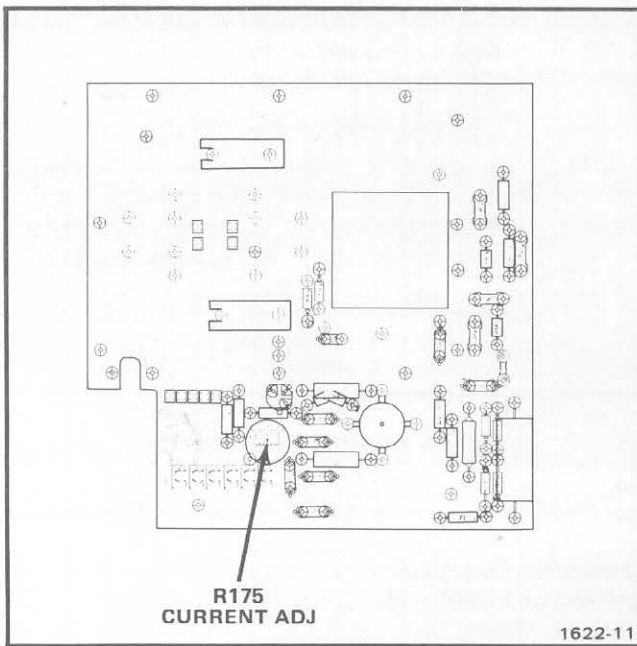
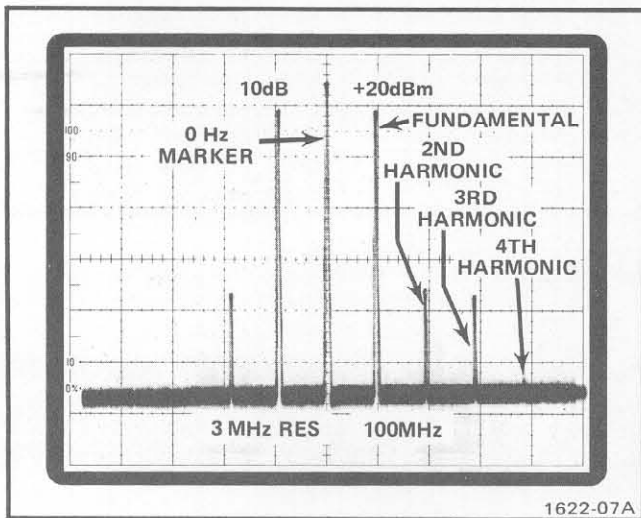

Fig. 3-4. Location of R175 Current Set adjustment.
Fig. 3-5. Display of 100 MHz signal and harmonics.
c. Position the 0 Hz marker display to the center graticule line with the spectrum analyzer position control. See Fig. 3-5 for reference.
d. Position the fundamental to the top graticule line with the spectrum analyzer vertical position control. See Fig. 3-5 for reference.
e. Slowly adjust the SG 503 OUTPUT AMPLITUDE control over the 0.5 volt to 5.5 volt range in both directions and check for at least 3.5 division vertical separation between the top of the fundamental and the top of the second harmonic display (35 decibels down). See Fig. 3-5 for harmonic reference.
f. Adjust—Current Adj, R175, for at least 3.5 division vertical separation between the top of the fundamental and the top of the second harmonic display. Repeat part e of this step. See Fig. 3-4 for adjustment location, and Fig. 3-5 for reference.
- c. Position the fundamental to the top graticule line with the spectrum analyzer vertical position control. See Fig. 3-5 for reference.